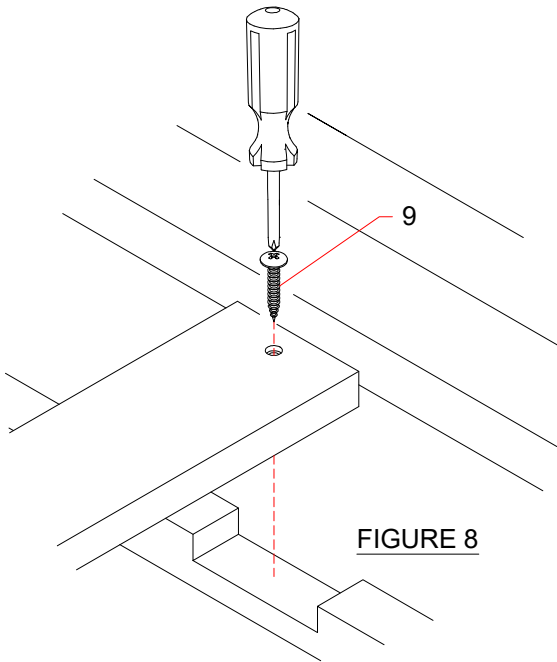

FIGURE 8
10. Set the bed slats (F1, F2) on the upper bunk and lower bunk. Secure each slat by using screws (9) provided. See FIGURE 8.